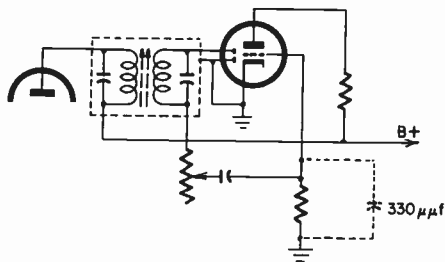

Fig. C-1. Code can often be eliminated by connecting a small capacitor in the grid circuit of the first audio stage.
**Service:** This condition can usually be cured by inserting a 330  $\mu\mu\text{f}$  bypass capacitor between the triode grid of the detector-first-audio tube and ground. See Fig. C-1.